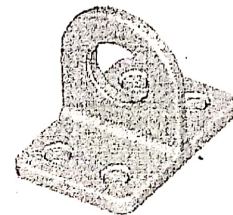

Figure 1: The "Real World" Object
- c. A real world model is shown in Figure 1. Sketch a possible idealized physical model to use for FEA from the real world model given